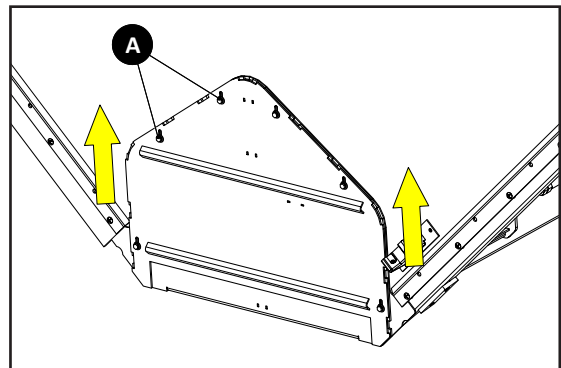

Figure 3
1. Figure 3 - Loosen six cap screws (A) and push feedgate assembly upwards in slots.